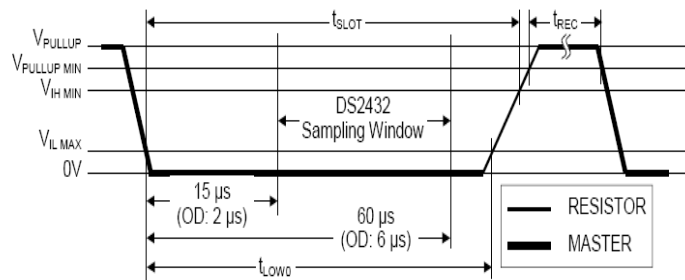

Fig4-97 - Write-zero Time Slot
- (2) Then, Master releases Protocol Analyzer and enters the RX mode. Through high- pull resistor, 1-WIRE Protocol Analyzer is pulled back to the high status.
- (3) Then, Master detects a rising edge from the Data Line when every slave will wait for a period of time (t_{PDH}) (standard speed: 15-60us; high speed: 2-6us) and send back a Presence Pulse to Master (t_{PDL})(standard speed:60-240us; high speed: 8-24us).
- (4) Finally, the 1-WIRE Protocol Analyzer will be pulled back to the high status through the resistor.
- (5) Meanwhile, Master can detect any online Slave.
- (6) From Fig4-97, the low count Reset Pulse and Presence Pulse signals can be clearly seen.
B. Write 1: If the sampling is high, 1 is generated (Note: Read 1 is of a similar waveform pattern) as in Fig4-97: